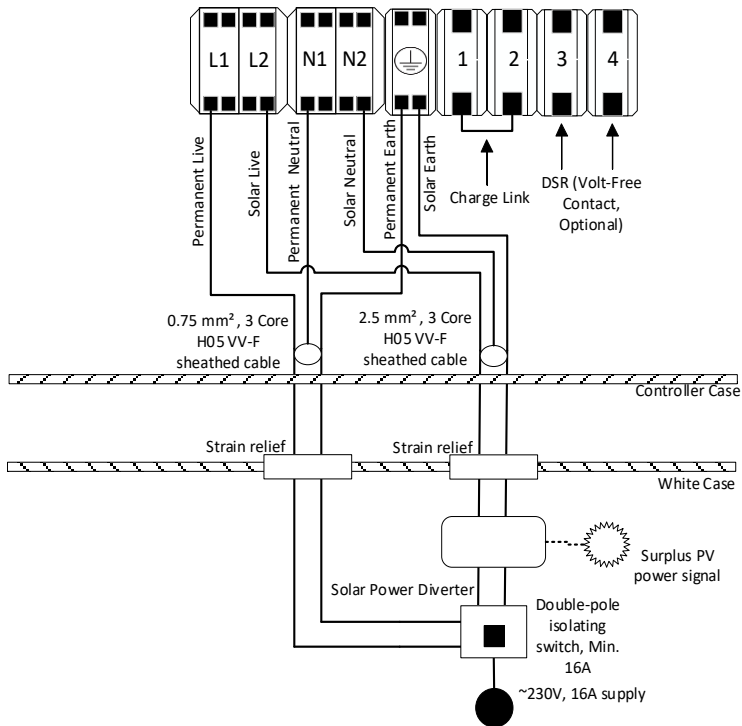

Figure 12 - Thermino ePlus Heat Battery wiring with solar power diversion
- With Solar Power Diversion follow Section 6.4.2, Figure 12.
Potential dual-supply – Always isolate both supplies to the Heat Battery controller before working on the appliance. Ensure that Links 1 & 2 are removed (see Figure 12) and that the power diversion controller output is modulating AC.